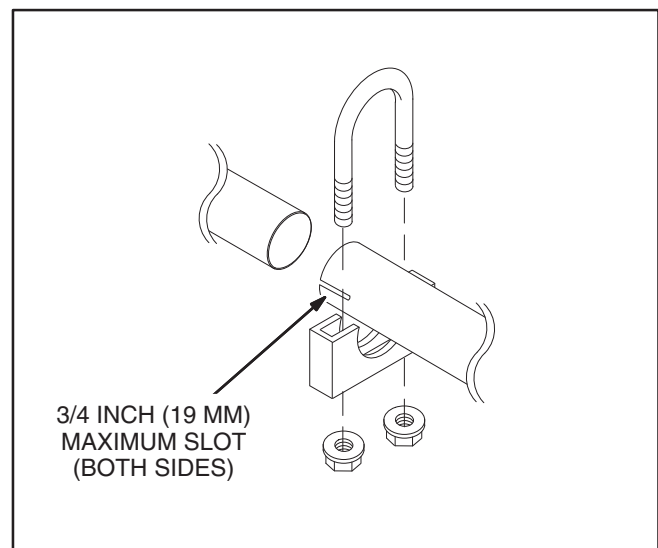

FIGURE 9. EXHAUST TAILPIPE CONNECTIONS
3. Use U-bolt muffler clamps to connect sections of tailpipe. It is recommended that the overlapping pipe be slotted as shown in Figure 9.